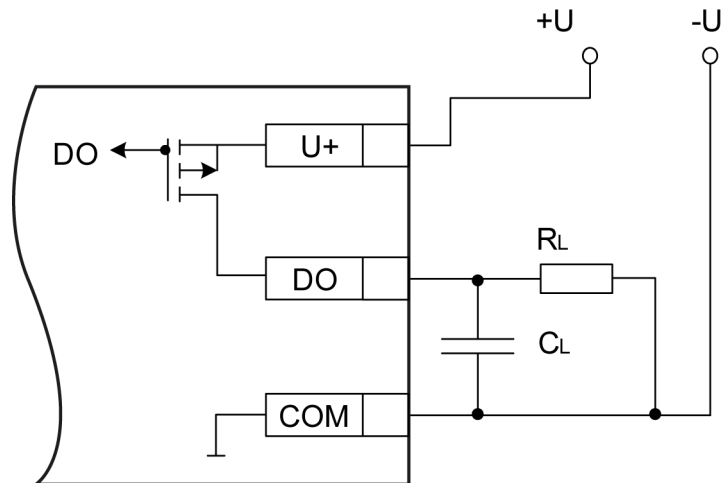

Fig. 5.2 Load connection in the high-side switch mode
- high-side switch (Figure 5.2), for switching loads with a smaller capacity and a large current;